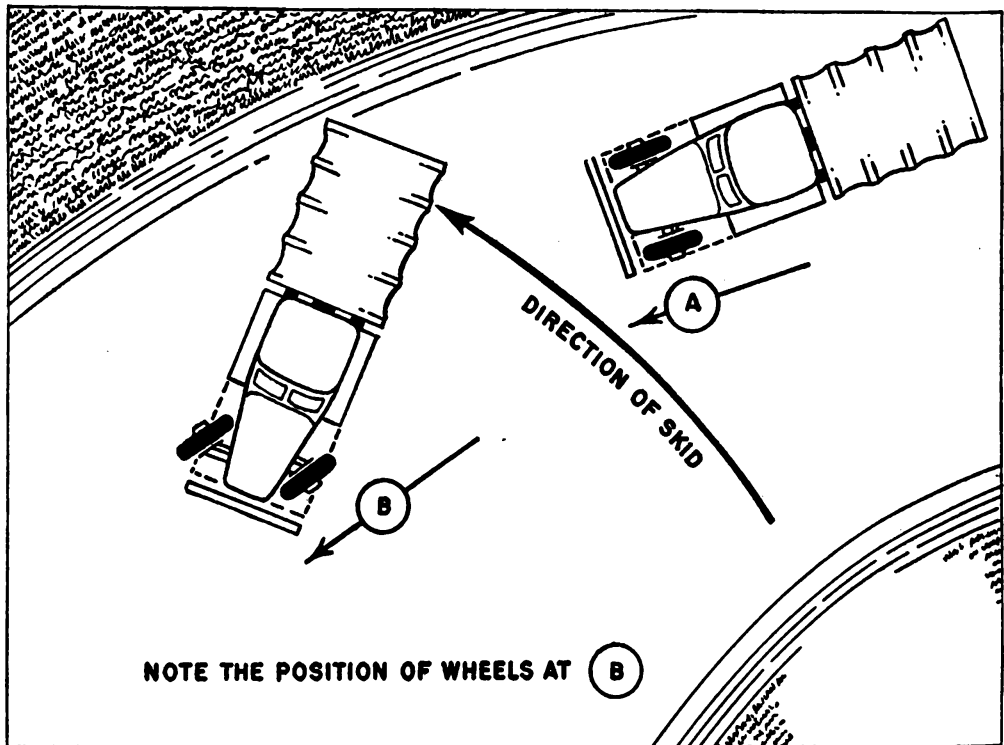

FIGURE 28.
(1) Do not jam on the brakes.
(2) Keep calm.
(3) Steer in the direction of the skid; that is, turn the steering wheel in the direction in which the rear of the vehicle is skidding, never in the opposite direction. (See fig. 28.)